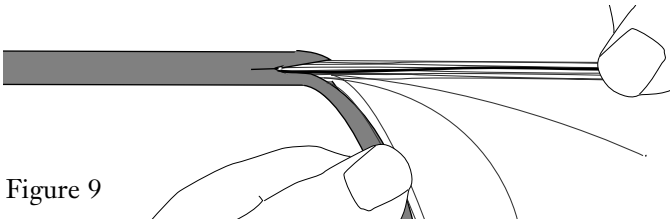

Figure 9
**4.8** Peel the split jacket back to the strip length mark (Figure 9).